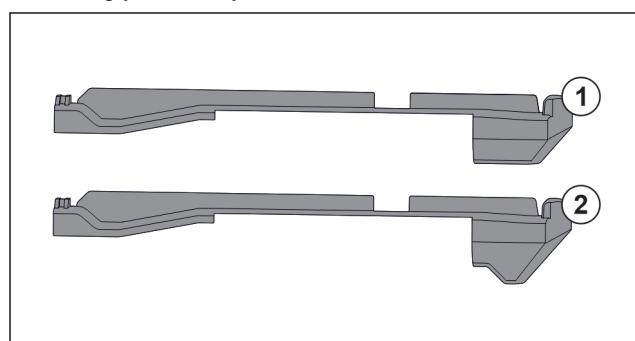

Fig. 125 Comparing attachments
There are two different attachments in the appliance. The attachment above the lowest drawer Fig. 125 (2) has a three-cornered edge. All other attachments Fig. 125 (1) have a straight edge.
- ▶ Fit attachment Fig. 125 (2) with the three-cornered edge above the lowest drawer.
- ▶ Fit attachment Fig. 125 (1) with straight edge in all other positions.